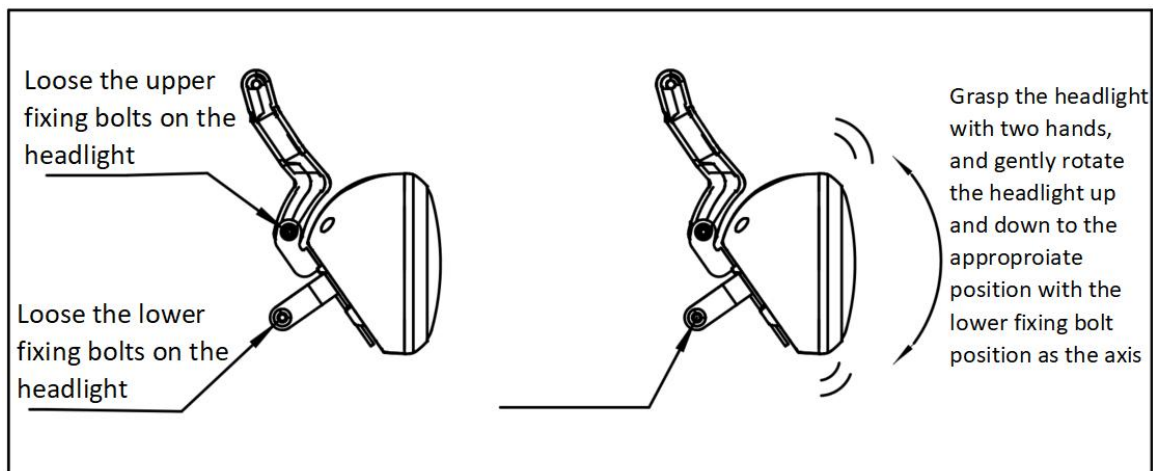

Figure 12
4.8. Headlamp pitch angle adjustment (Figure 12)